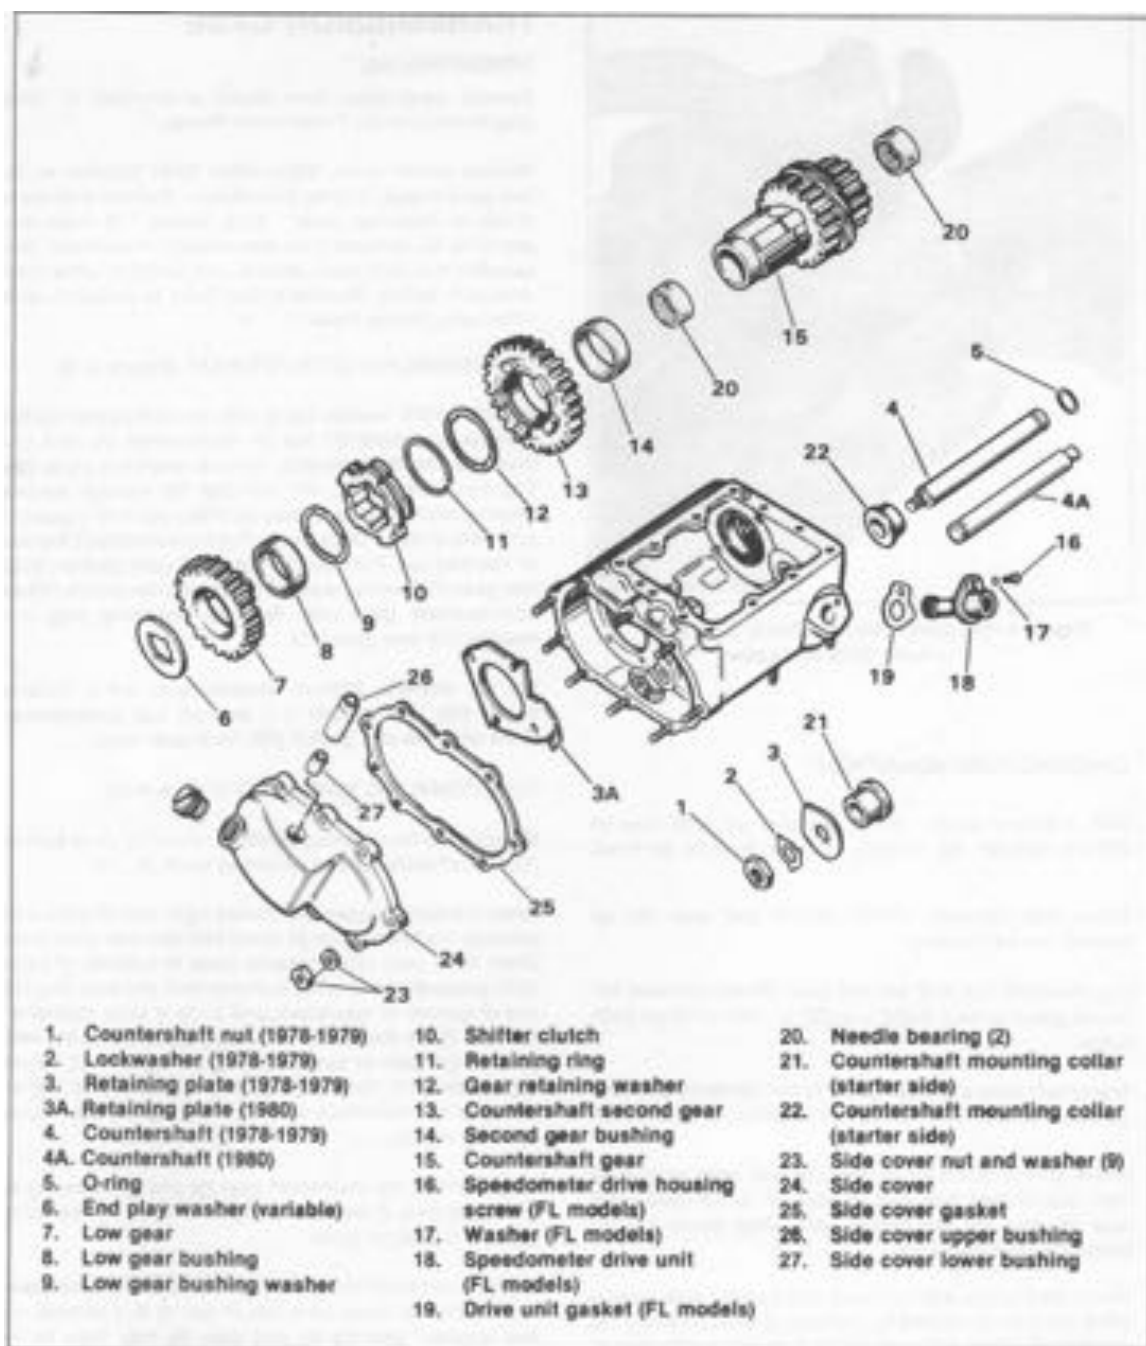
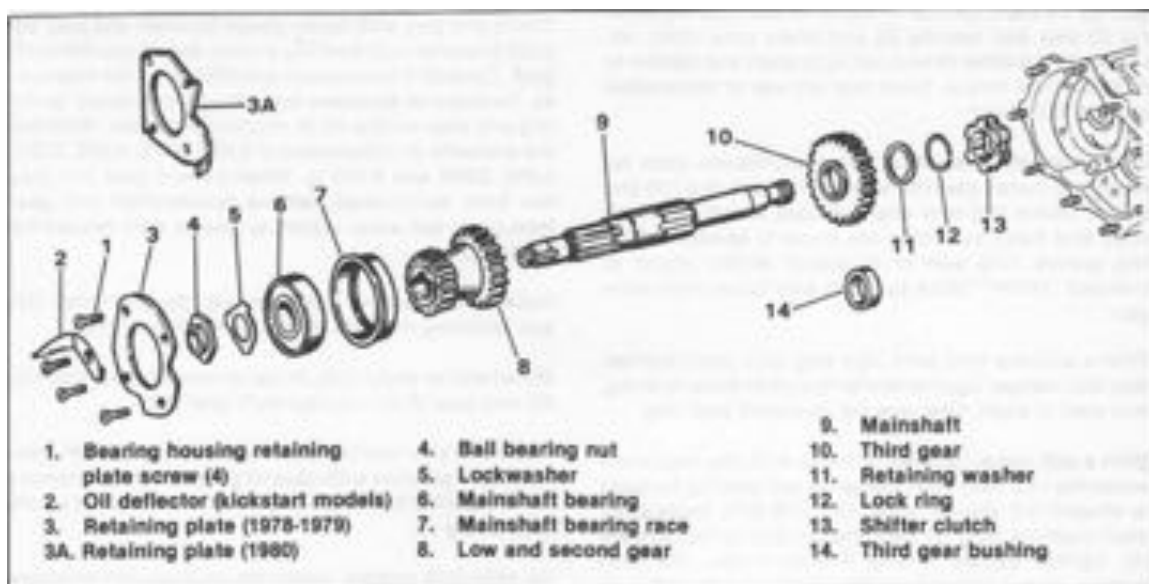
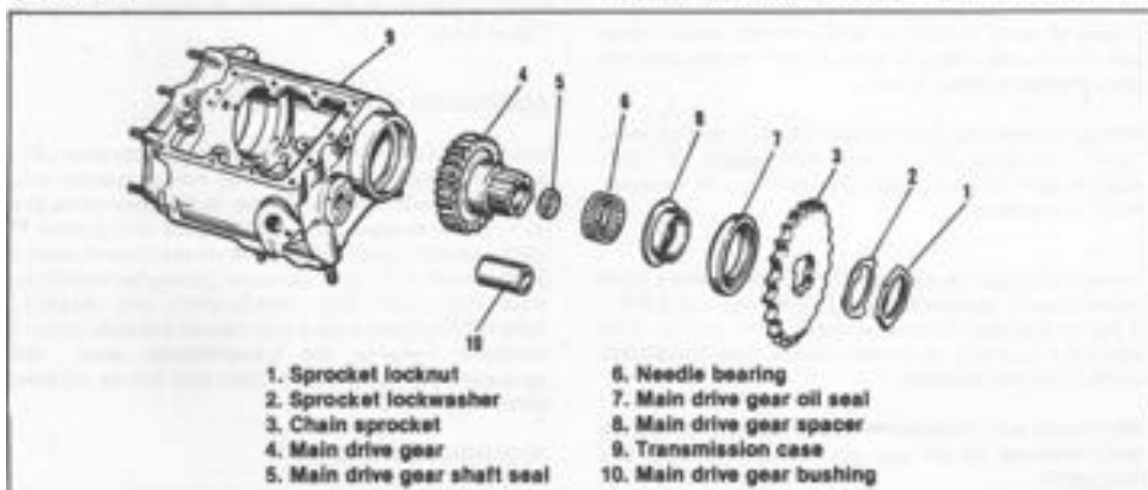

Figure 4-19. Countershaft and Case Assembly — Exploded View
Figure 4-20. Mainshaft Assembly – Exploded View
Figure 4-21. Main Drive Gear — Exploded View
### DISASSEMBLING COUNTERSHAFT (Figure 4-19)
### DISASSEMBLING MAINSHAFT (Figure 4-20)
### DISASSEMBLING MAIN DRIVE GEAR (Figure 4-21)
Inspect all bushings, bearings and shafts. If bent or worn, install new parts. If mainshaft ball bearing (6, figure 4-20) is worn to point where play is obviously too great, install new bearing.
If main drive gear (4, Figure 4-21) fit is excessively loose on mainshaft, replace bushing (10) and ream to 1.002 to 1.003 in. diameter to provide specified fit on mainshaft using a 1 inch dia. expansion reamer (See TRANSMISSION SPECIFICATIONS).
Carefully check shifter clutches (10, Figure 4-19 and 13, Figure 4-20) and engaging dogs on gears. If they are rounded or battered appearing, they must be replaced.
Check bearings (6, Figure 4-21, 6, Figure 4-20 and 20, Figure 4-19).
See Figure 4-21: Press needle bearing (6) into case using a suitable drift. Press on lettered side of bearing only. Press flush with outside of case. Install main drive gear (4) from inside case. Coat rollers lightly with grease. Install main drive gear spacer (8) in oil seal (7) and press in oil seal flush with case. Sprocket (3) may be assembled after mainshaft and countershaft are installed. 1978-1979 sprockets have a recess on one side which is installed towards the transmission case. 1980 sprockets are flat on both sides and can be installed either way.
See Figure 4-20. Assemble parts 4 through 8 to mainshaft before installing mainshaft in gear case. Position
#### ASSEMBLING COUNTERSHAFT (Figure 4-19)
On 1978-1979 models, install the countershaft retaining plate (3), lockwasher (2) and nut (1). The flat side of the retaining plate should fit against the mainshaft bearing retaining plate (3, Figure 4-20). Tighten the nut to 55-60 ft-lbs torque and bend one ear of lockwasher against nut flat.